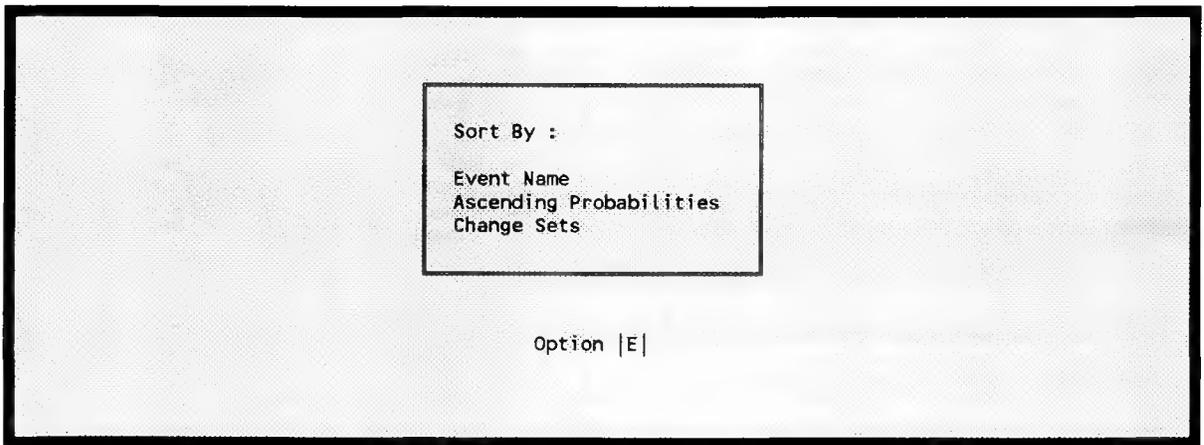

Figure 59. Selecting the sorting order for event reports.
5.2.9.2 Unaffected Events (Base). This option allows you to generate a report of the events that are not affected by any of the change sets that currently exist in the data base. To invoke the option, type  in the command field and press <Enter>. The sort selection menu will be presented allowing you to sort the data by event name, ascending probability, or change set (Figure 59).
5.2.9.3 Affected Events (Current). This option allows you to generate a report of the events that are affected by the change sets that currently exist in the data base. To invoke the option, type <F> in the command field and press <Enter>. The sort selection menu will be presented allowing you to have the data sorted by event name, ascending probability, or change set (Figure 59).
5.2.9.4 All Events (Base, Current). This option allows you to generate a report of all of the events in the data base. The report will indicate which events are affected by a change set. To invoke the option, type <A> in the command field and press <Enter>. The sort selection menu will be presented allowing you to have the data sorted by event name, ascending probability, or change set (Figure 59).